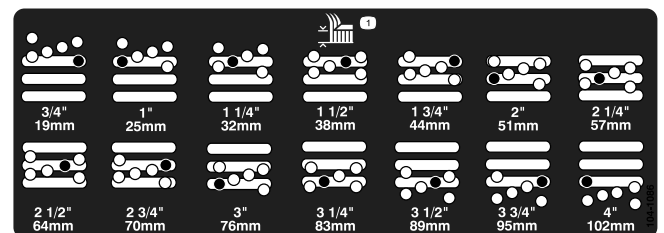

Figure 17
5. Move the chamber to the desired height of cut and install a spacer into the designated height-of-cut hole and slot (Figure 17).